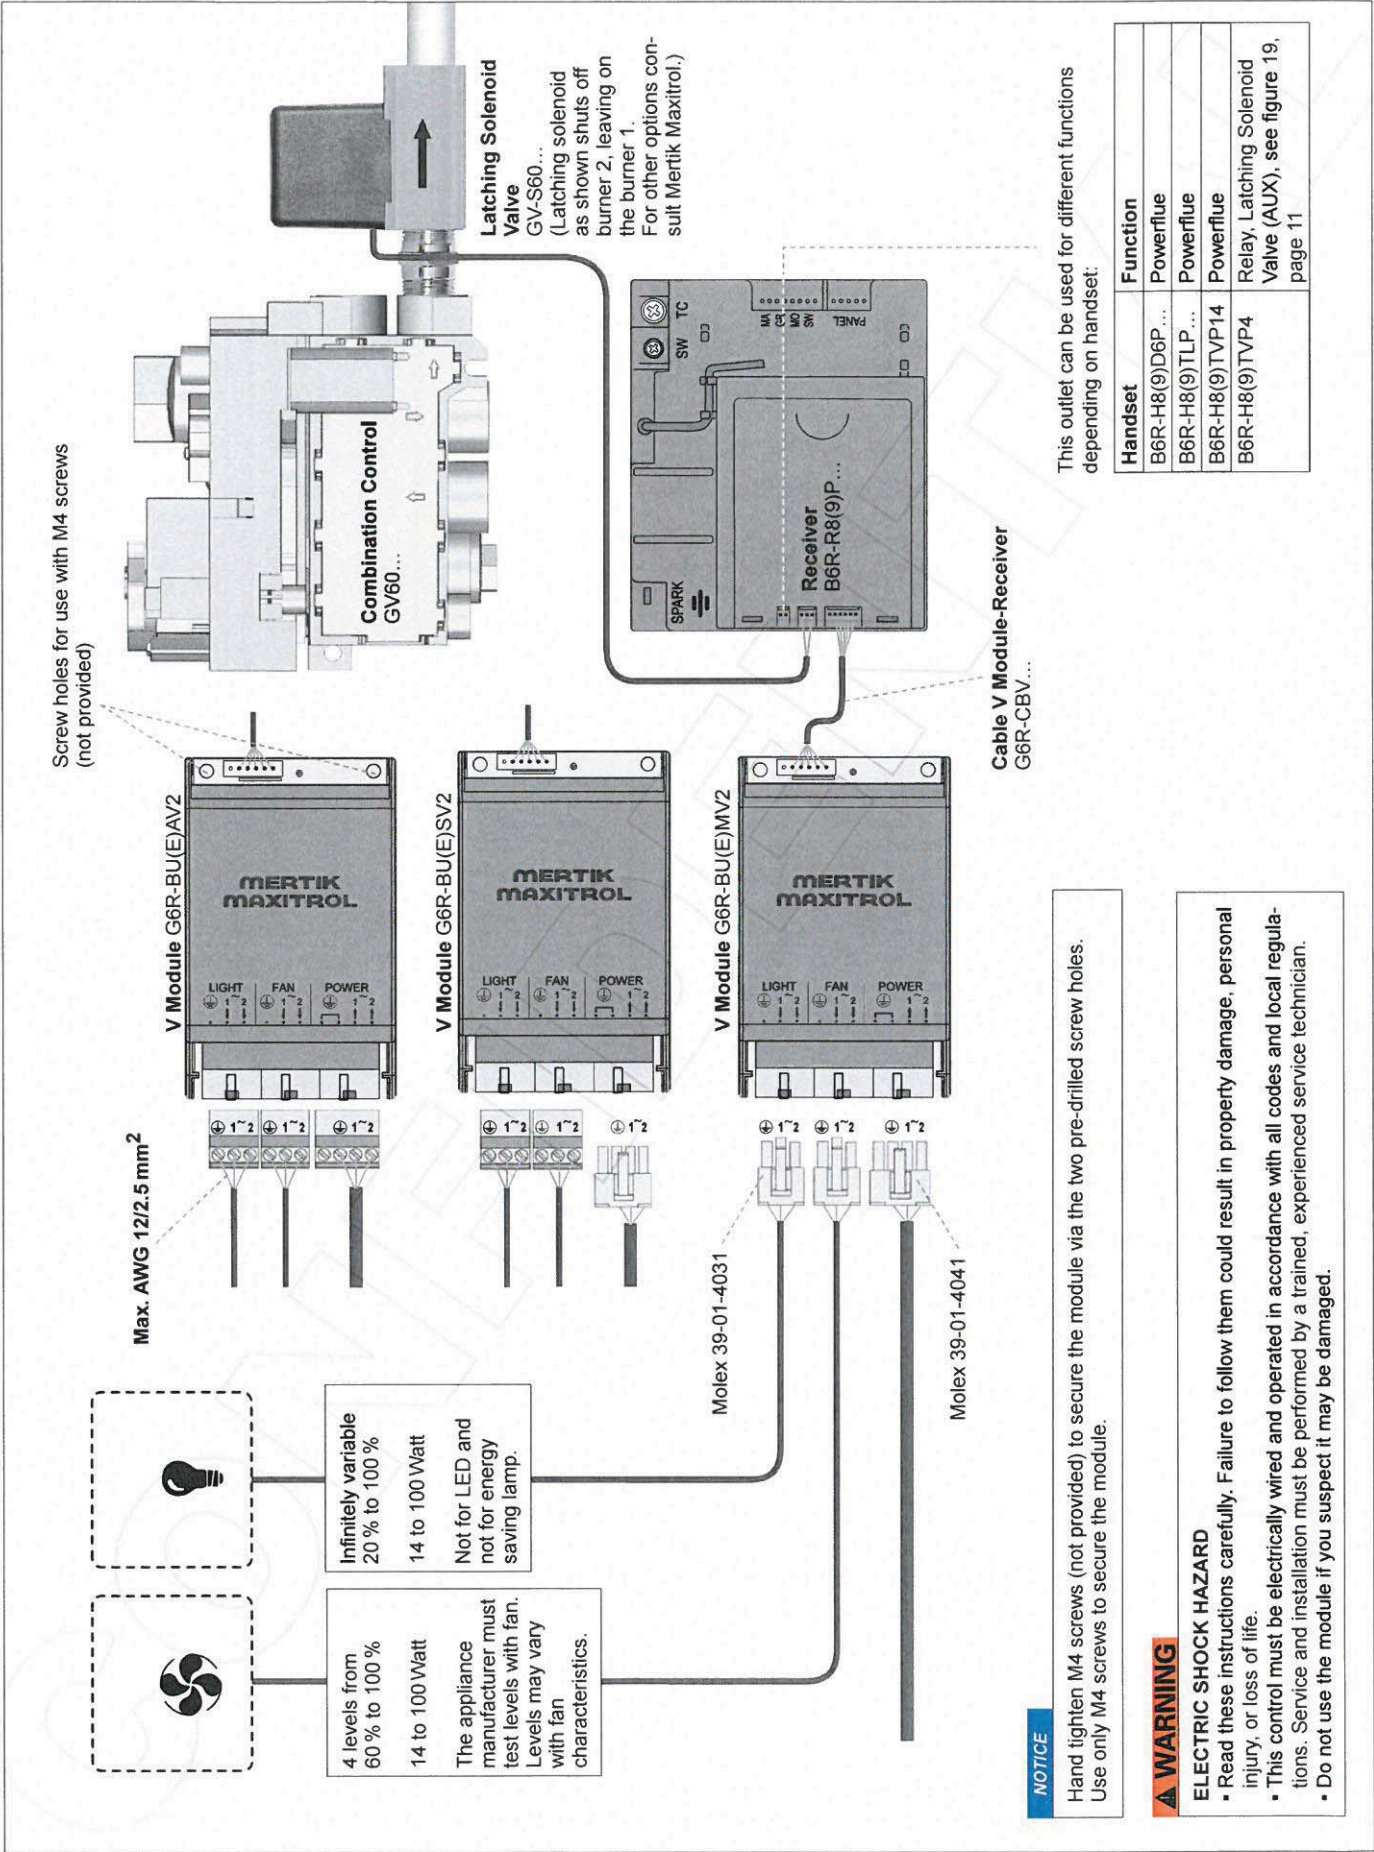

Figure 17
- 1. Use Power cord, Fan and Light with Molex connector according to wiring diagram (see figure 17, page 9) or connect wires with core cable ends to the pluggable screw terminals.